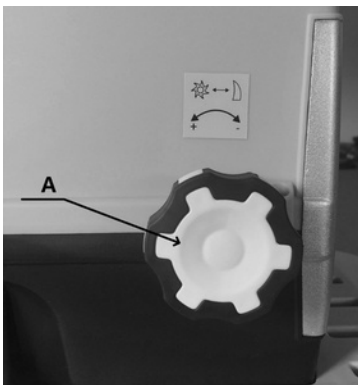

Fig. 5A
1. Turn Counterplate Adjusting Knob (A) clockwise until a slight friction noise can be heard and fine aluminum chips fall from the ejector chute for a short period of time. (Fig. 5A and 5B)